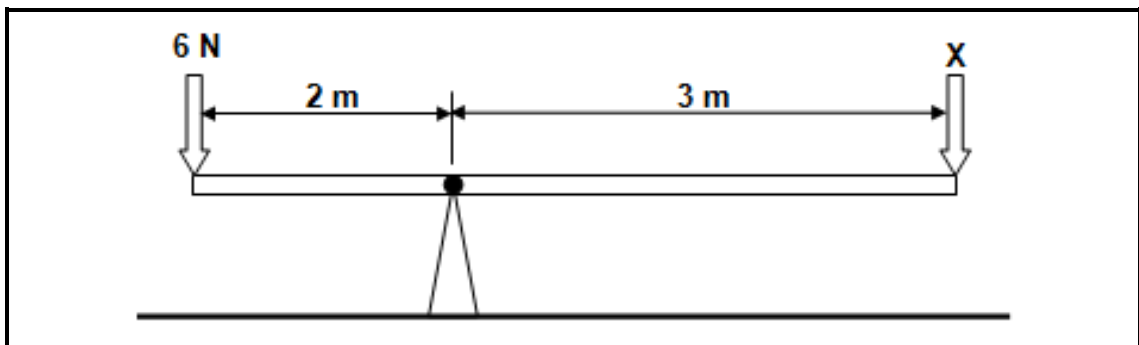

FIGURE 4.6
- (1)
- 4.6 What is the magnitude of force **X** shown in FIGURE 4.6 below?